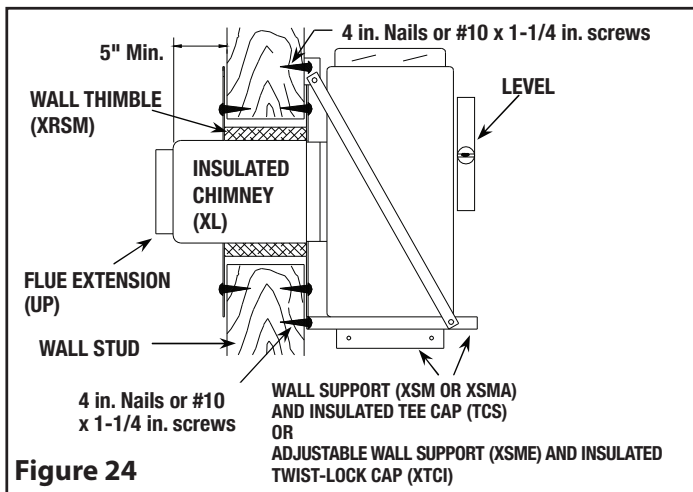

Figure 24
Step 6. Attach the flue extension to the horizontal chimney length using the three (3) metal screws provided (*see Figure 24*).